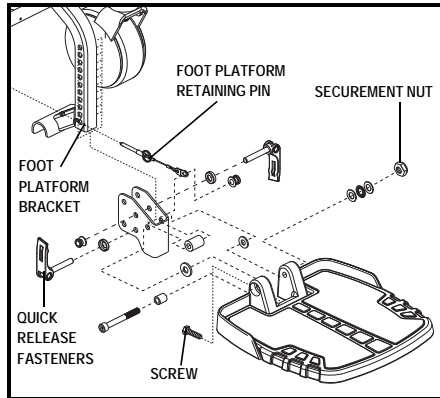
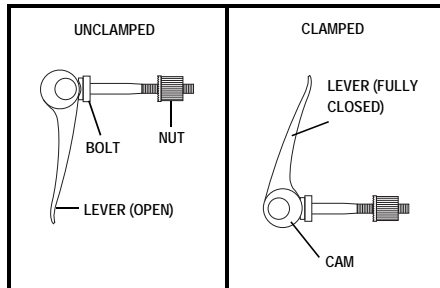

Figure 20. Foot Platform Adjustment
Figure 21. Quick Release Fastener Operation
1. Remove the quick release fasteners from the foot platform bracket. **See figure 20.**
**Quick Release Fasteners:** The foot platform is attached to the power base with two quick release fasteners. **See figure 20.** Each quick release fastener consists of a bolt, a lever, and a nut. **See figure 21.** The lever has a cam on the end that allows it to clamp into place. The quick release fastener has two states: clamped and unclamped. When the lever is open, the quick release fastener is unclamped. When the lever is closed, the quick release fastener is clamped.